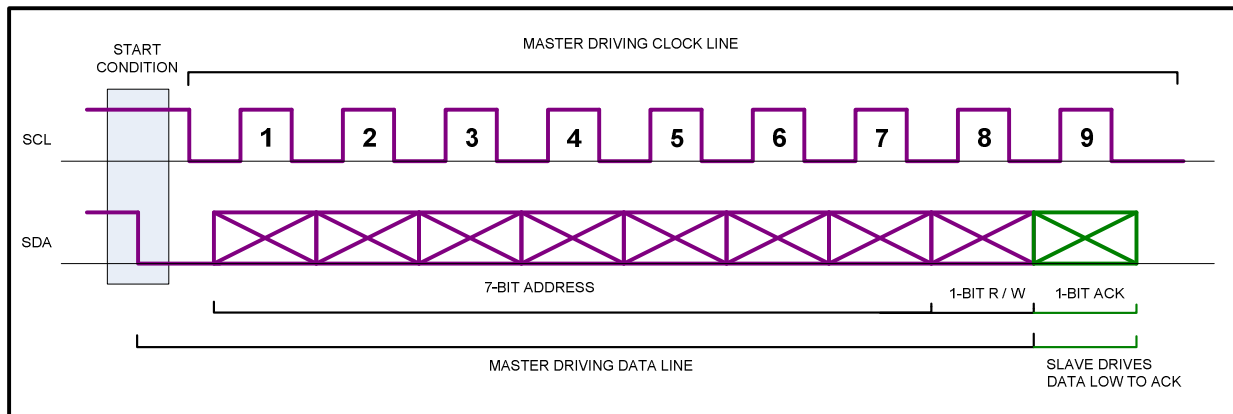

Figure 12.2.3.1: Start condition and address byte
When no communication is taking place, SDA and SCL are high and the bus is idle. To begin communication, the master initiates a “start condition” on the bus, which is the act of bringing SDA low while SCL remains high. This transition order is a known special case per the protocol and never occurs during data transmission so it can be identified by all devices on the bus. As a rule of the system, all slaves on the bus are normally idle and looking for the start condition to occur. The master then broadcasts the 7-bit address in the top 7 MSBs of the first byte and adds a read (1) or write (0) bit for the 8th bit (the LSB). The master toggles the clock line for each bit in the address byte, and always adds an additional clock cycle for a ninth bit. When the slave sees its 7-bit address on the bus plus a read/write bit, it will acknowledge the address by holding the data line low on the 9th clock provided by the master. As long as one of the slaves on the bus sees its address, the master will get an ACK and know that the slave it addressed is ready. This is illustrated in Figure 12.2.3.1.